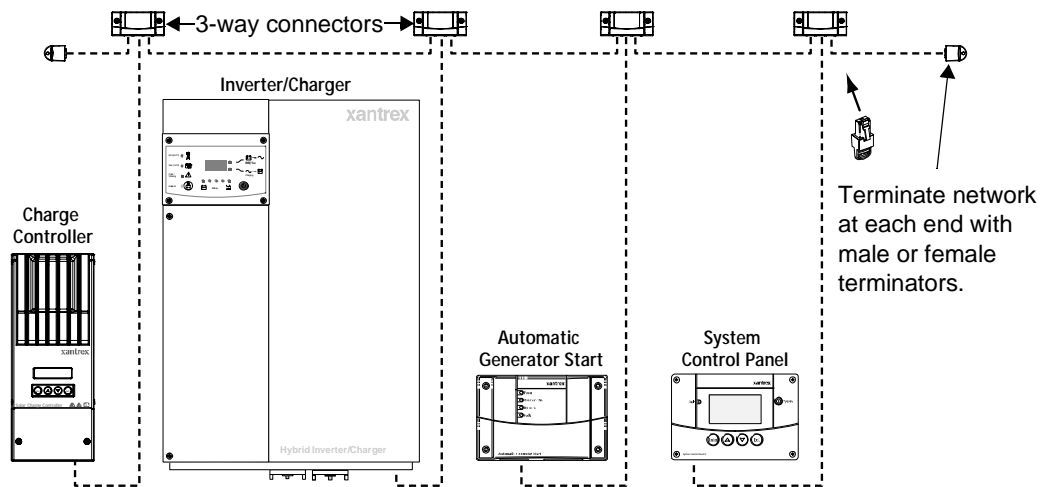

Figure 2-5 Multi-Drop Backbone Layout
In a multi-drop backbone layout, each Xanbus-enabled device on the network is connected by a drop cable to the network bus or backbone with a network connector, as shown in Figure 2-5.
4. Connect each network connector with a Xanbus cable as shown in Figure 2-5.